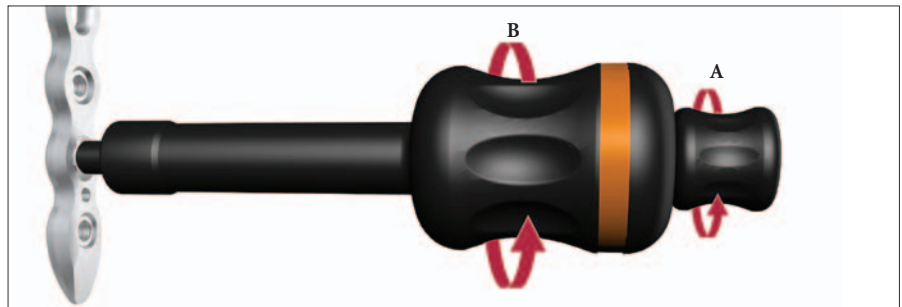

Fig. 2B
Thread the central portion (A) of the Locking Insert Extractor (REF 702767) into the Locking Insert that you wish to remove until it is fully seated (Fig. 2B).